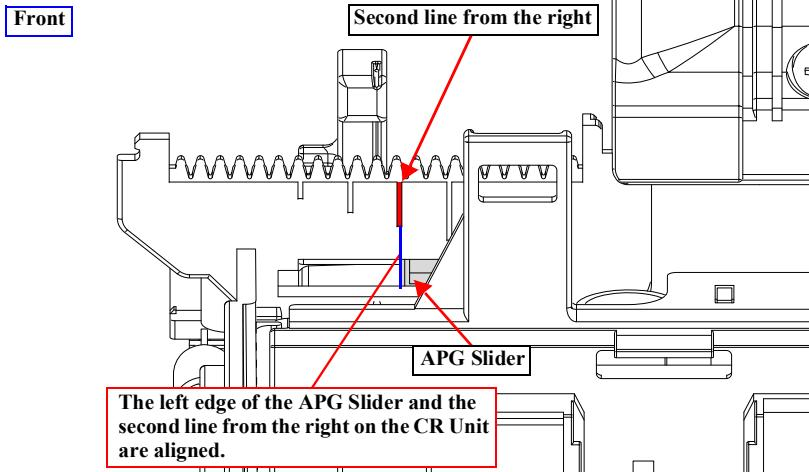

Figure 4-23. Check PG value
7. Refer to Figure 4-23, check if the PG is set to the typical value (PG1.6).